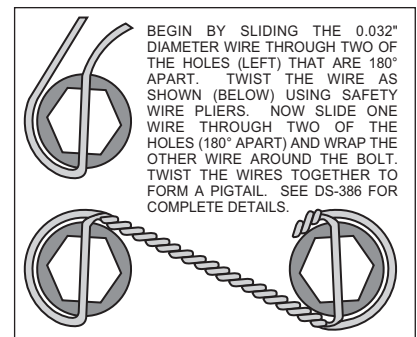
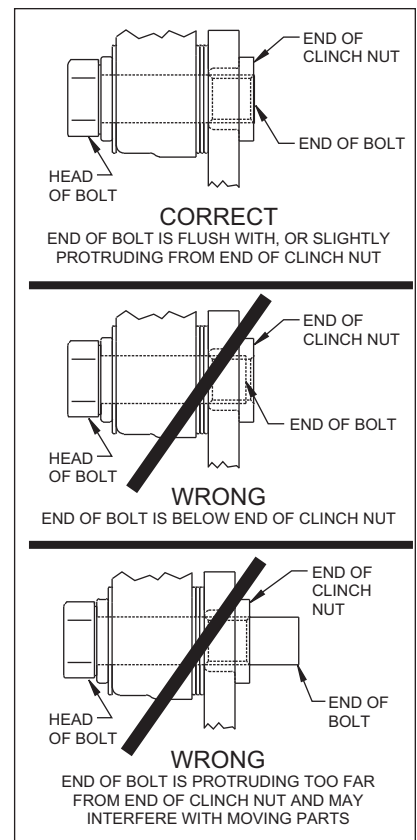

Figure 3. Safety Wire Diagram
Figure 4. Clinch Nut Engagement Diagram
- With the slot pointing upward and the mounting ears pointing towards the rear of the vehicle, install the caliper mounting bracket (1) to the housing flange using the stock Original Equipment Manufacturer (OEM) bolts and nuts. Stock OEM hex nuts that retain the bracket (1) should be on the wheel side of the bracket. Apply red *Loctite*® 271 to the stock OEM bolt threads and torque to OEM specifications. **NOTE:** *Some brackets act as the bearing retainers, while others help locate the bearing in the axle housing flange.* If the stock bearing plates are still on the axle, the caliper mounting brackets (1) should be located between the axle housing flange and the bearing retainer plate. Make sure the heads of the caliper mounting bracket insert nuts are FACING OUTWARD TOWARDS THE WHEEL.
- The rotor (3) has two sides. A flat side and an inset side. Bolt hat (2) to flat side of rotor (3) using bolts (5). Using an alternating sequence, apply red *Loctite*® 271 to the threads and torque bolts to 180 **in-lb**. Safety wire bolts (5) using standard 0.032 inch diameter stainless steel safety wire as shown in Figure 3. Refer to Wilwood's data sheet DS-386 (available at www.wilwood.com/Pdf/DataSheets/ds386.pdf) for complete safety wire installation instructions.
- Align the correct hole pattern in the hat (2) with the stud pattern on the axle flange. **NOTE:** *Some OEM and after market axles come with stud sizes larger than 0.50" diameter.* Verify stud size and have a qualified machine shop drill the hats to the correct size. Slide the hat/rotor assembly (2 and 3) over the wheel studs and against the axle flange face.
- NOTE:** *Please reference the caution statement at the beginning of the assembly instructions.* Mount the caliper (6) over the rotor (3) and onto the caliper mounting bracket (1) using washers (7) and mounting bolts (8). View the rotor through the top opening of the caliper. The rotor should be aligned in the center of the caliper. If not, adjust the caliper by using 0.032 inch shims (9) by placing them between the caliper mounting bracket (1) and the caliper (6). Add as many shim washers (9) as necessary to achieve the correct alignment. **NOTE:** *The end of the bolt must be flush with or slightly protruding from the head of the clinch nut.* See Figure 4. Place spare shims (9) between washer and caliper mounting ear to achieve the proper mounting fastener configuration. Always use the same amount of shims on both the top and bottom caliper mounting bolts (8). Apply red *Loctite*® 271 to the mounting bolt threads (8), torque to 30 ft-lb. Safety wire the caliper mounting bolts (8).
- Position the Wilwood disc brake pads (10) into the caliper (6) and fasten with cotter pin (4). Steel backing plate side of brake pad should face the caliper pistons.